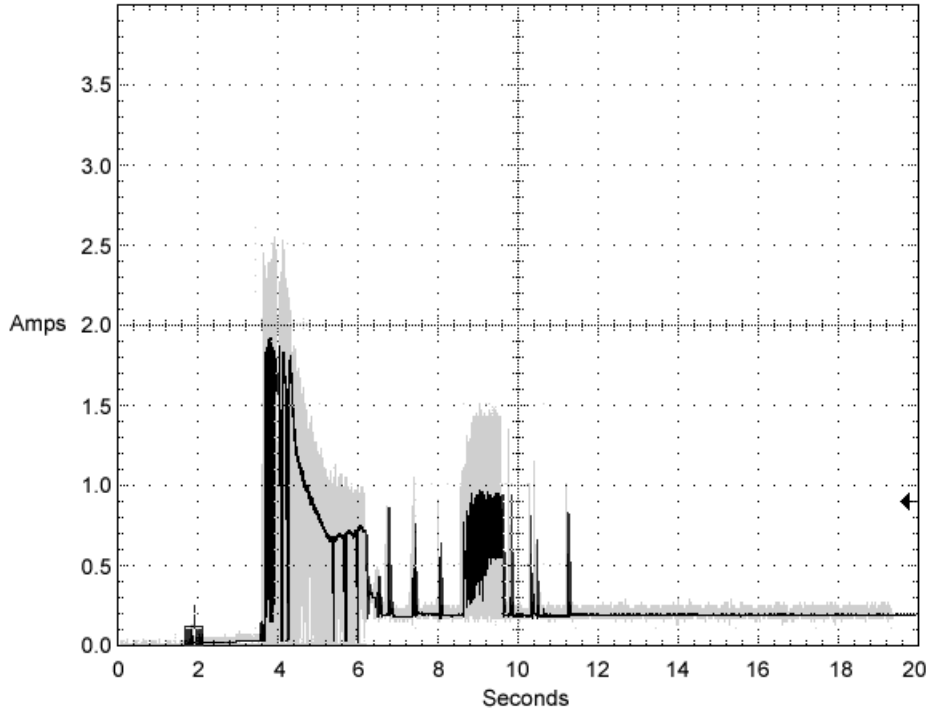

Figure 2. Typical ST973401SS drive +12V current profile
- [3] See +12V current profile in Figure 2.